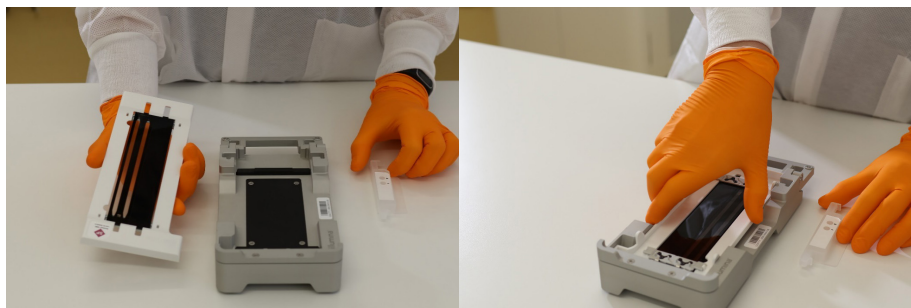

Figure 6. Placing flow cell on the dock
8. Invert the flow cell so that the top surface faces downward. Slip the outlet end of the flow cell under the bracket at the top of the NovaSeq™ Xp flow cell dock. Place the flow cell on the dock (*Figure 6*).